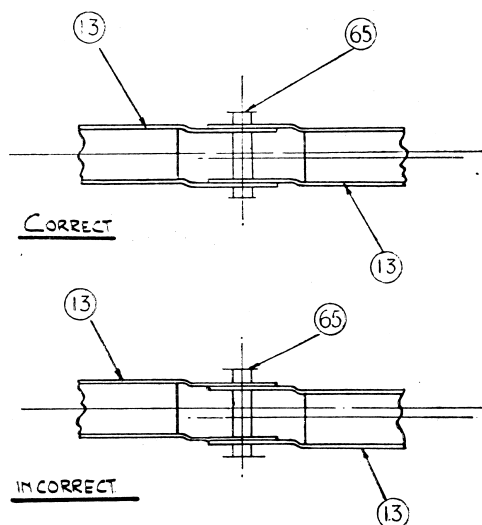

FIG. 8
If the fault cannot be attributed to any of the above causes, it is almost certainly due to some part of the balancing arm system not working freely. To locate the offending part, remove the Coupling Pin (65) and the Spring (68). If each Balancing Arm and its associated levers is now found to fall freely under its own weight, the stiffness must be due to the coupling pin not working freely in the slots through which it passes. This would most likely be caused by either, or both, of the Balancing Arm Lifting Levers (13) having been accidentally bent or twisted. When replacing the Pin (65) be sure that the inner ends of the Levers (13) overlap in the correct manner, as shown in Fig. 8.